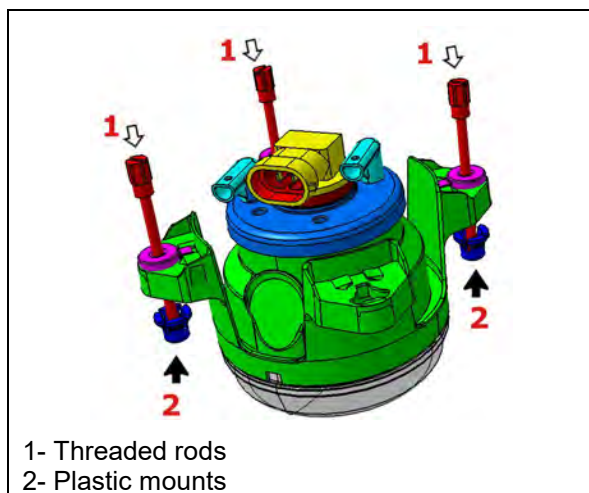

FIGURE 73: HEADLAMP MODULE
5. Install three new threaded rods (item 1, Figure 73) on new headlamp module.
7. Snap new plastic mounts on threaded rods (3x) (item 2 in Figure 73).